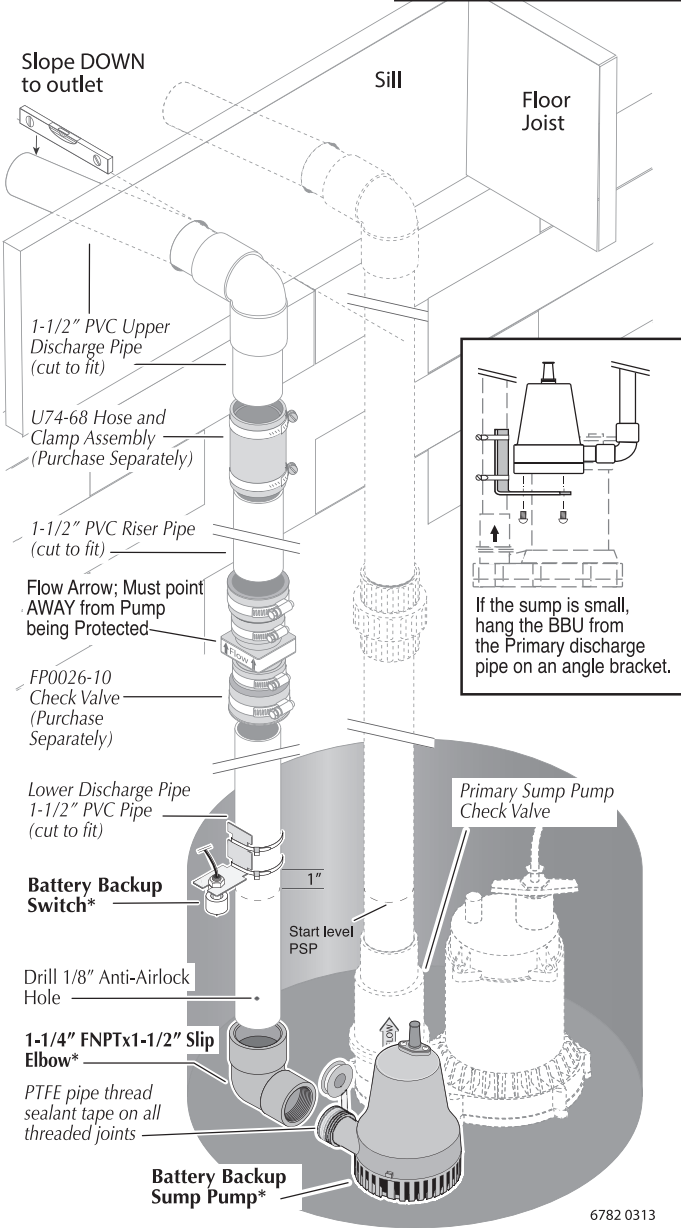

Figure 4: Typical installation with separate discharge pipes.
3. If the sump is too small to allow both pumps to sit on the bottom of the sump, install an angle bracket on the primary sump pump's discharge pipe with stainless steel hose clamps. Mount the backup pump on the angle bracket. See Figure 4, "Separate Discharge".
4. Cut a piece of 1-1/2" PVC pipe to reach from the back-up pump discharge elbow to about one (1) foot above the basement floor. This is the lower discharge pipe.